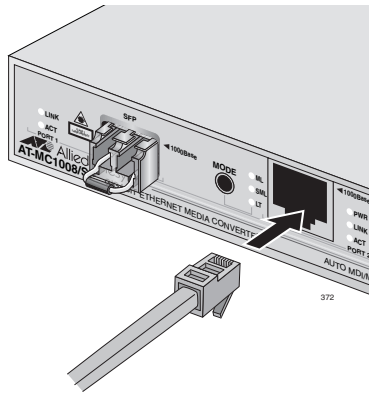

Figure 21. Connecting to the RJ-45 Copper Ports
1. Connect the RJ-45 twisted pair cable to the 1000Base-TX port, as shown in Figure 21.